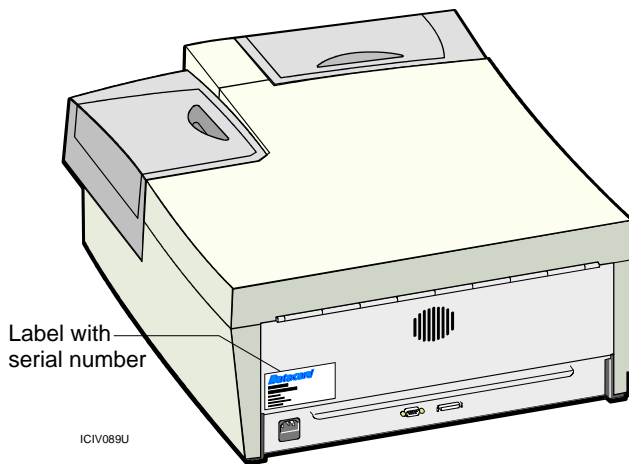

Figure 8-1: Location of printer serial number
- Record the printer model serial number located on the back of the printer, shown in Figure 8-1.